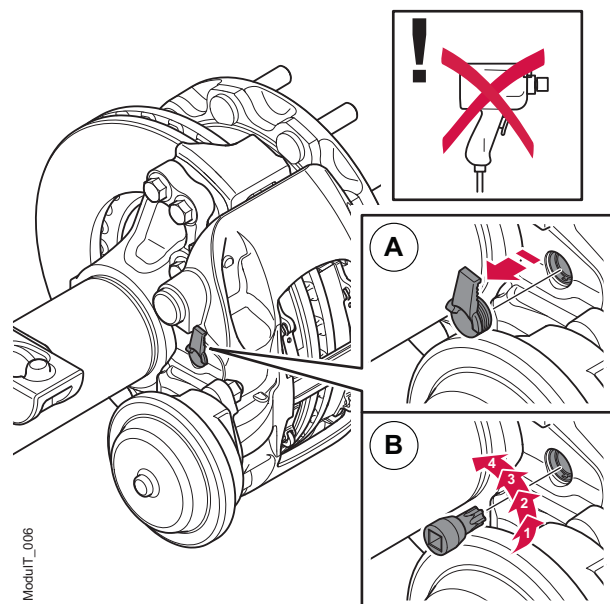

Figure 8. De-adjustment via the reset shaft
2. Remove the reset shaft protection plug (A), see figure 8.
3. Using Haldex special tool P/N95232 (Torx 55), de-adjust the brake by turning the reset shaft anti-clockwise by 4 clicks, or till the end stop, see (B) figure 8. A distinct clicking sound shall be heard and felt when de-adjusting.